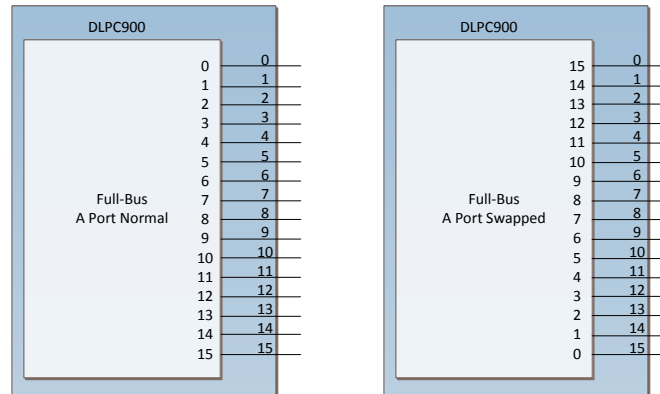

Figure 7-4. Controller to DMD Full-Bus Connections
- (4) The DLPC900 is a Full-Bus DMD signaling interface. Figure 7-4 shows the controller connections for this configuration.
- (5) The pulse duration minimum for any clock rate can be calculated using the following formulas.
Figure 7-4 shows the controller connections for full-bus normal or swapped. Refer to the Firmware section of the *DLPC® LightCrafter™ Single DLPC900 Evaluation Module (EVM) User's Guide (DLPU101)* or *DLPC® LightCrafter™ Dual DLPC900 Evaluation Module (EVM) User's Guide (DLPU102)* for details on how to select the bus swap settings to match the board layout connections.